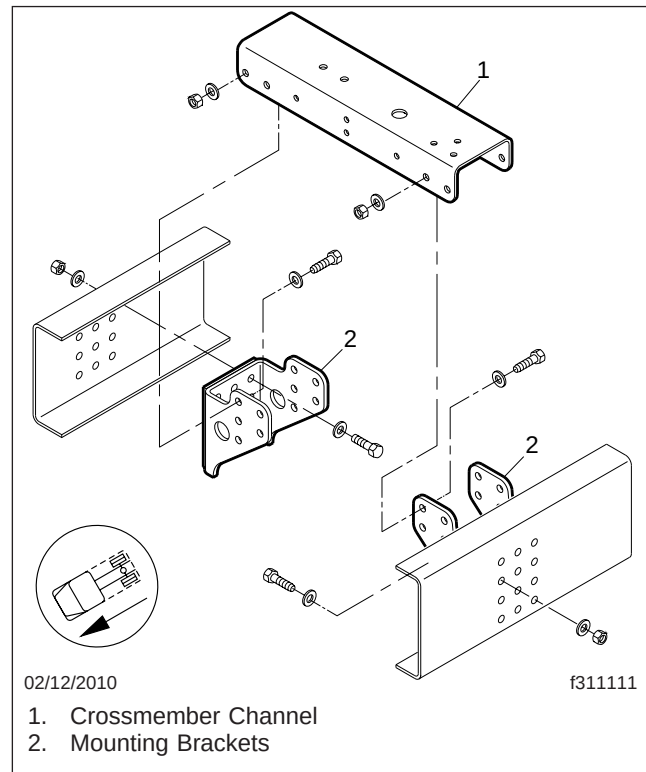

Fig. 3, Back-of-Cab Crossmember (day cabs)
2. Remove the fasteners that attach the crossmember and any mounting brackets that are being replaced, then remove the crossmember. See Fig. 3.